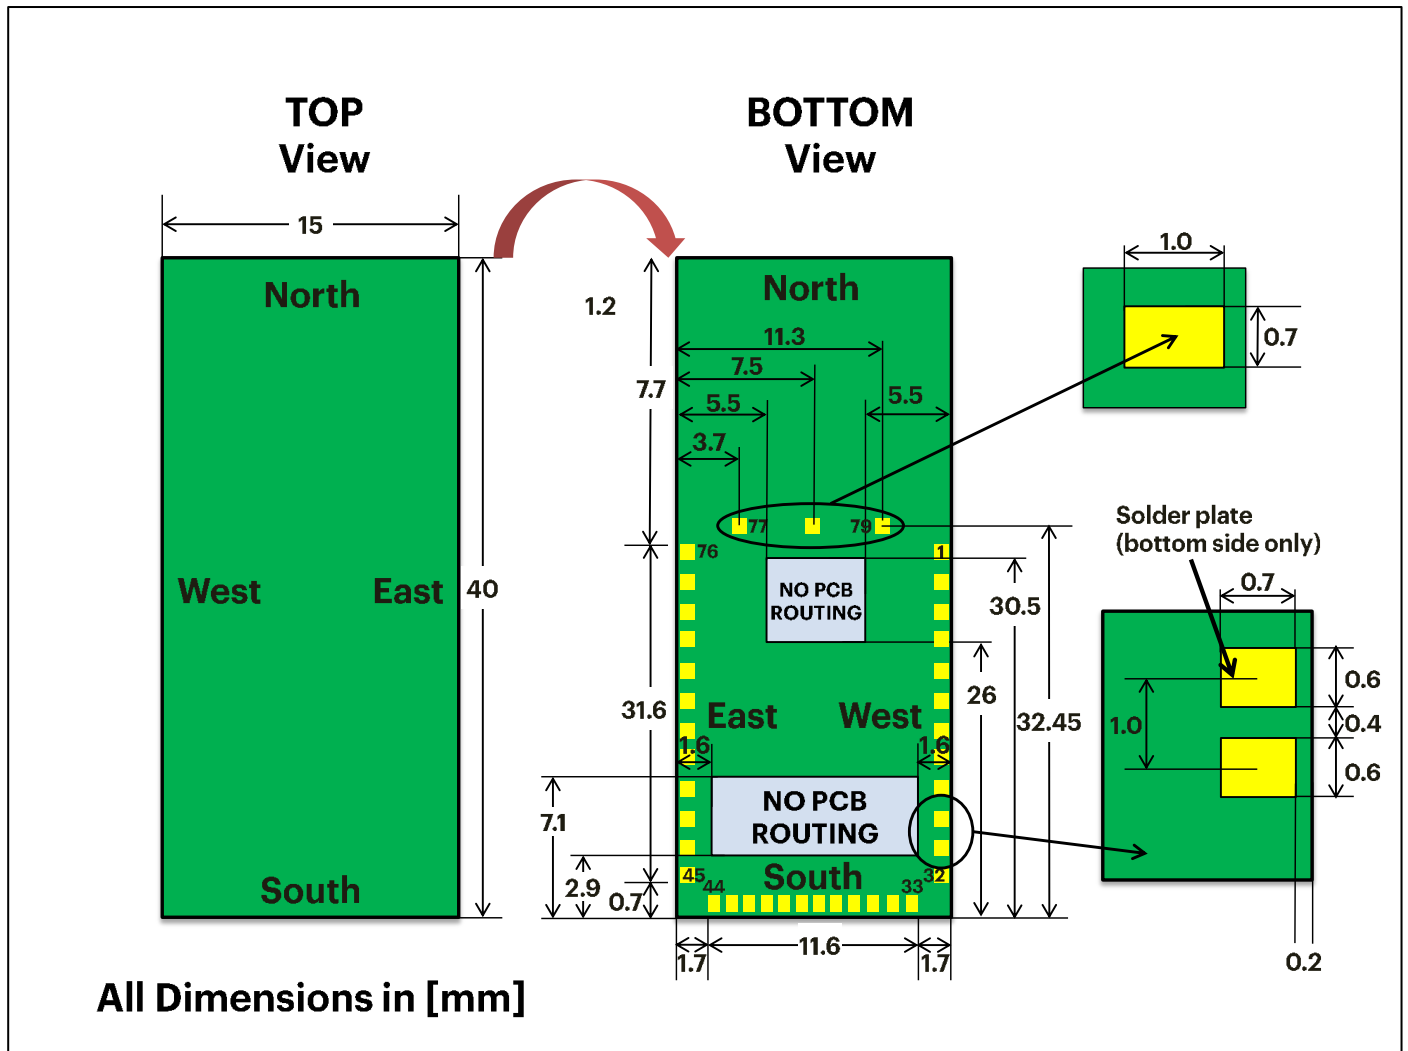

Figure 4. ARTIK 053 Module Mechanical Dimensions
Figure 4 shows the mechanical dimensions of the ARTIK 053 Module. All dimensions are in mm.
- See Figure 4 for additional routing restrictions.